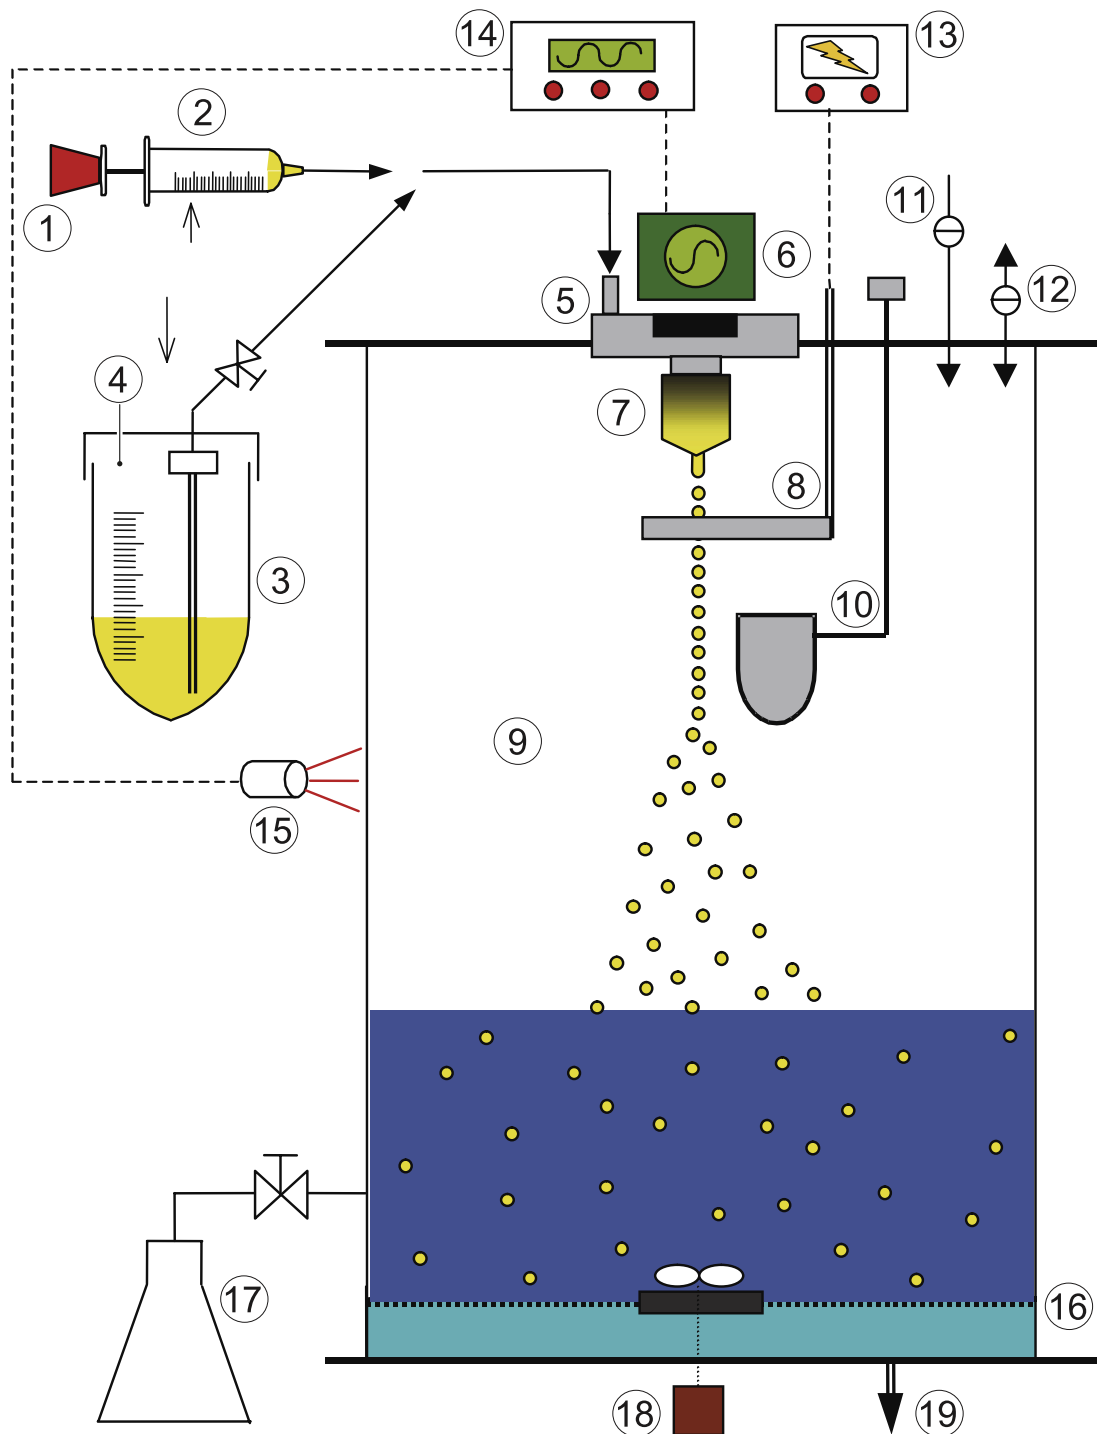

Figure 4-1: Schematic representation of the Encapsulator B-395 Pro
The product to be encapsulated (cells, microorganisms, or other biologicals and chemicals) is mixed with an encapsulating polymer (typically alginate) and the mixture put into a syringe ② or a pressure bottle ③, see *figure 4-1*. The polymer-product mixture is forced into the pulsation chamber ⑤ by either a syringe pump ① or by air pressure ④. The liquid then passes through a precisely drilled nozzle ⑦ and separates into equal size droplets on exiting the nozzle. These droplets pass through an electrical field between the nozzle ⑦ and the electrode ⑧ resulting in a surface charge. Electrostatic repulsion forces disperse the beads as they drop to the hardening solution.